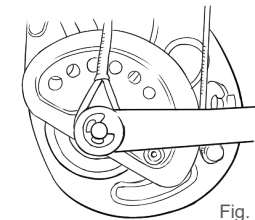
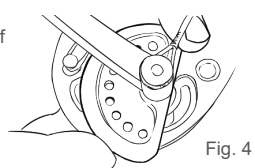
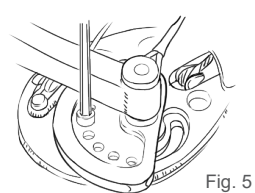

Fig. 3
Fig. 4
Fig. 5
3. Line the desired inner-cam module position hole labeled A-I (Fig. 3) with the hole on the outer cam (Fig. 4). Insert the module screw into the desired position hole and tighten (Fig. 5).